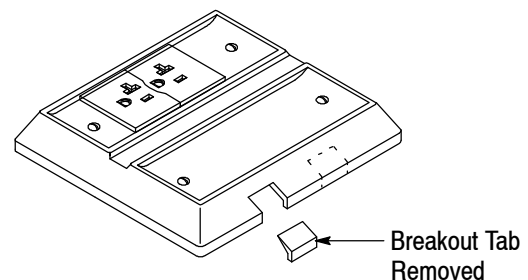
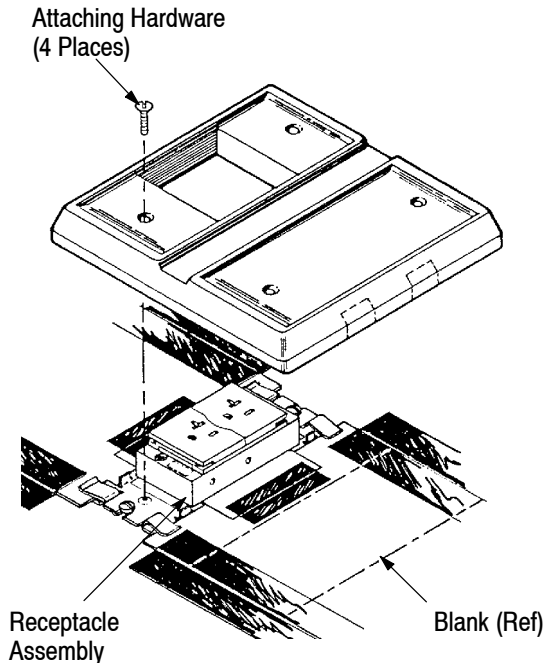

Figure 8
Figure 9
a. Center the modular jack bracket over the scribe lines of the mounting plate, then secure it using the adhesive-backed foam tape (provided with the bracket). See Figure 8, Detail A.
c. Insert the modular jack into the bracket with the movable latch facing the base of the bracket until it is secure. Using tape, secure the cable to the floor. See Figure 8, Detail B.
d. Remove the break-out tab(s) from the cover that correspond to the modular jack(s). See Figure 8, Detail C.
3. Secure the cover to the mounting plate using the attaching hardware. See Figure 9.
- Added Figure 8 and modified Figure 9